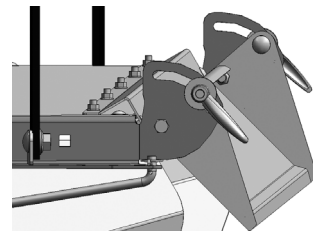

Figure 3
3) **Rear Baffle Adjustment.** See Figure 3